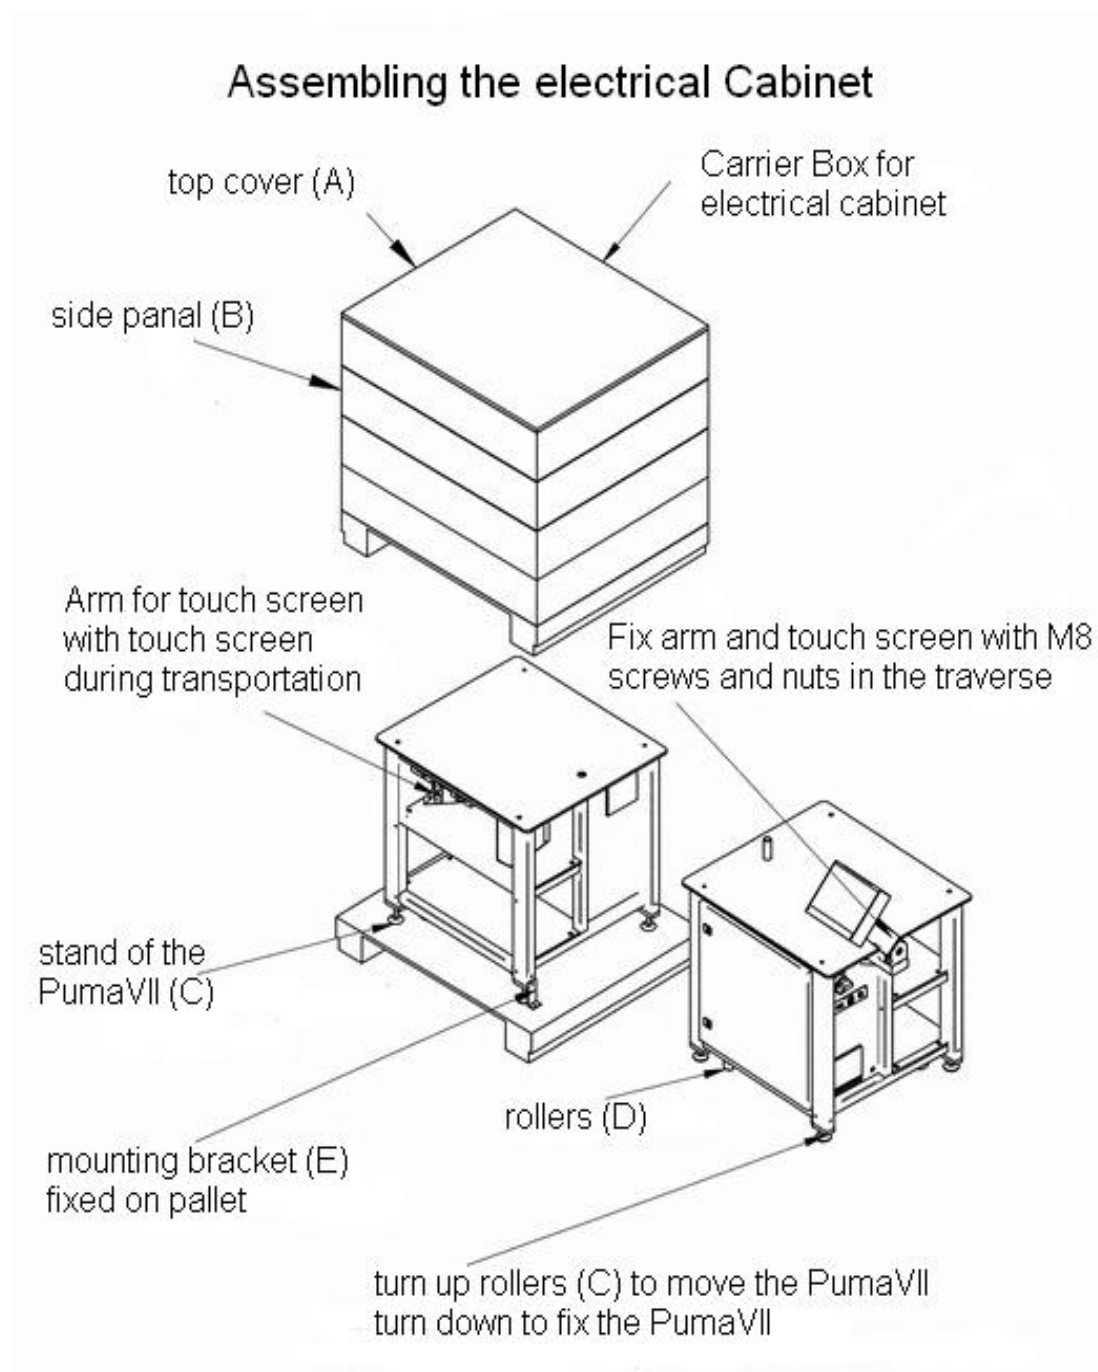

Figure 5: Assembling Electrical Cabinet
1. remove top cover 'A' with side panel 'B' (Figure 5).